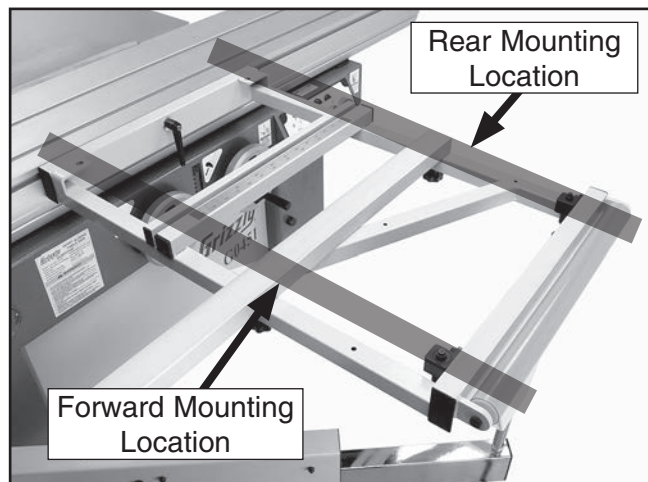

Figure 92. Crosscut fence mounting points.
1. Install the crosscut fence in the forward mounting location shown in **Figure 92** and lock it in place.
1. Install the crosscut fence in the rear mounting points shown in **Figure 92** and lock it in place.